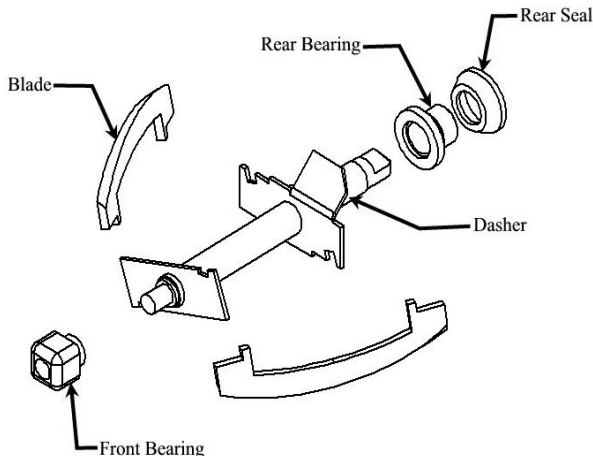

Fig. 8
c. Assemble and install the rear bearing and seal with the rubber portion toward the rear of the freezing cylinder as indicated in Fig. 8.
d. Install the scraper blades on the dasher assembly (Fig. 8).